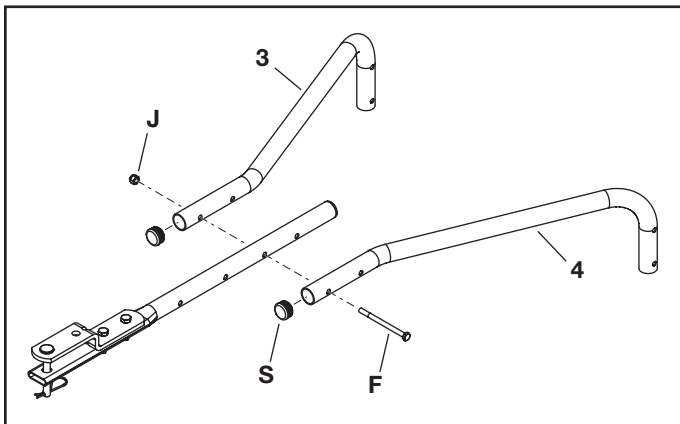

FIGURE 2
STEP 2: (SEE FIGURE 2)
- Attach the hitch support tubes (3) and (4) to the hitch tube using one 1/4" x 3-1/2" hex bolt (F) and 1/4" nylock nut (J). **Do not tighten completely.**